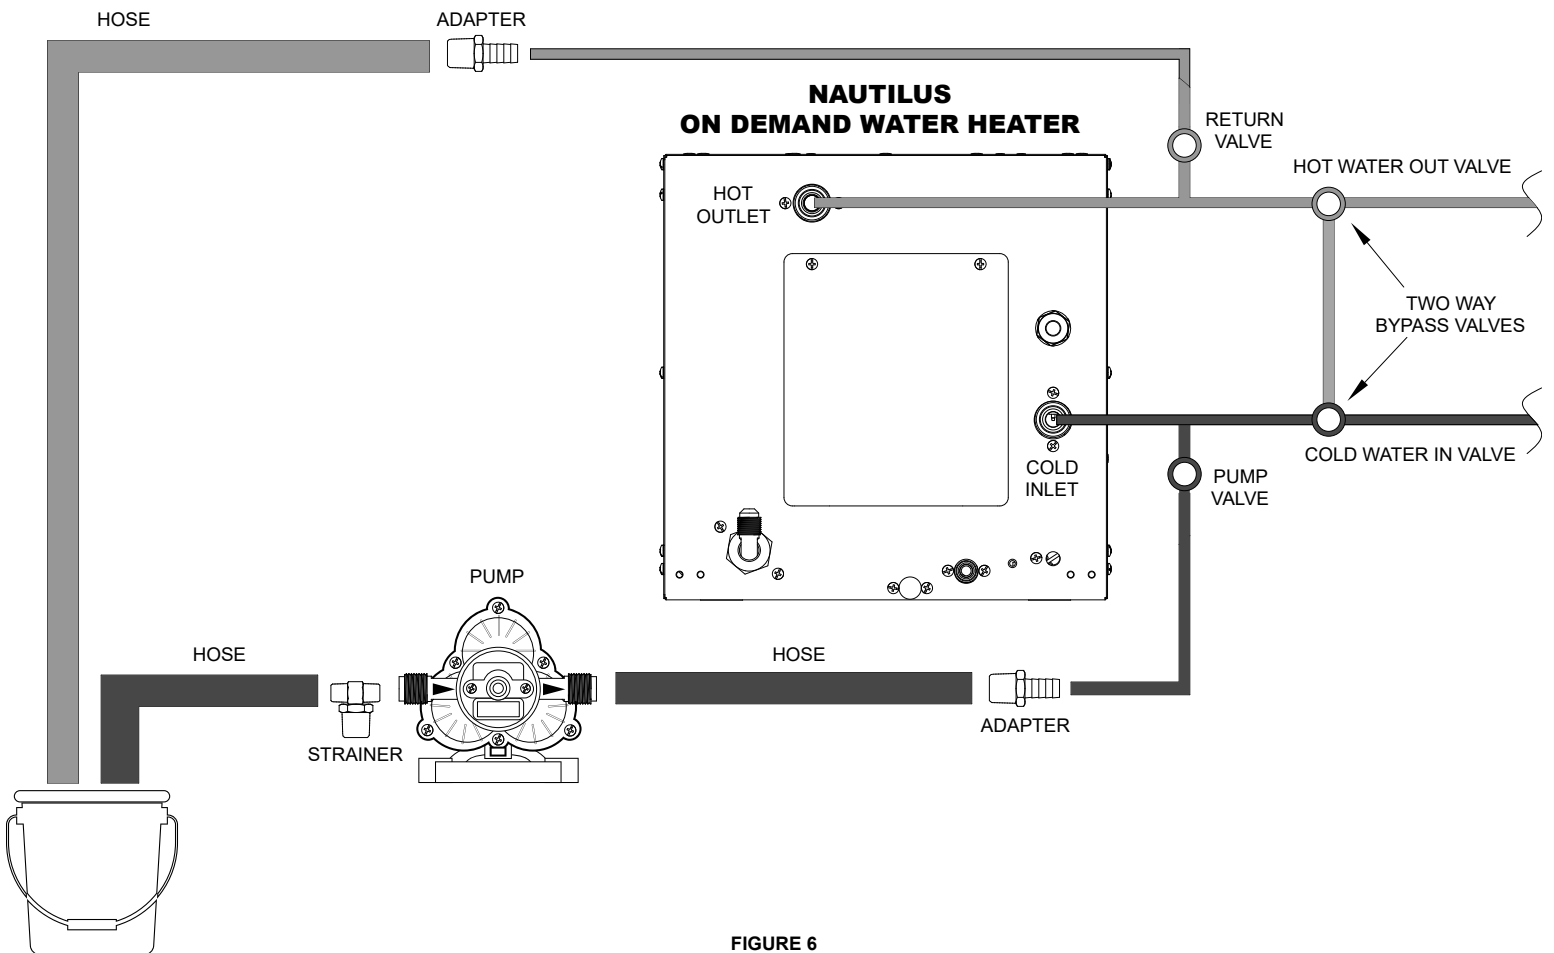

FIGURE 6
- f. Figure 6 shows the complete installation of the decalcification kit utilizing a 2 way bypass valve system.
2. To connect the decalcification system, "T" fittings must be installed in the hot and cold water lines between the cutoff valves and the water heater. See Figure 6.
### INSTALLATION AND DECALCIFICATION PROCESS REFER TO FIGURE 6